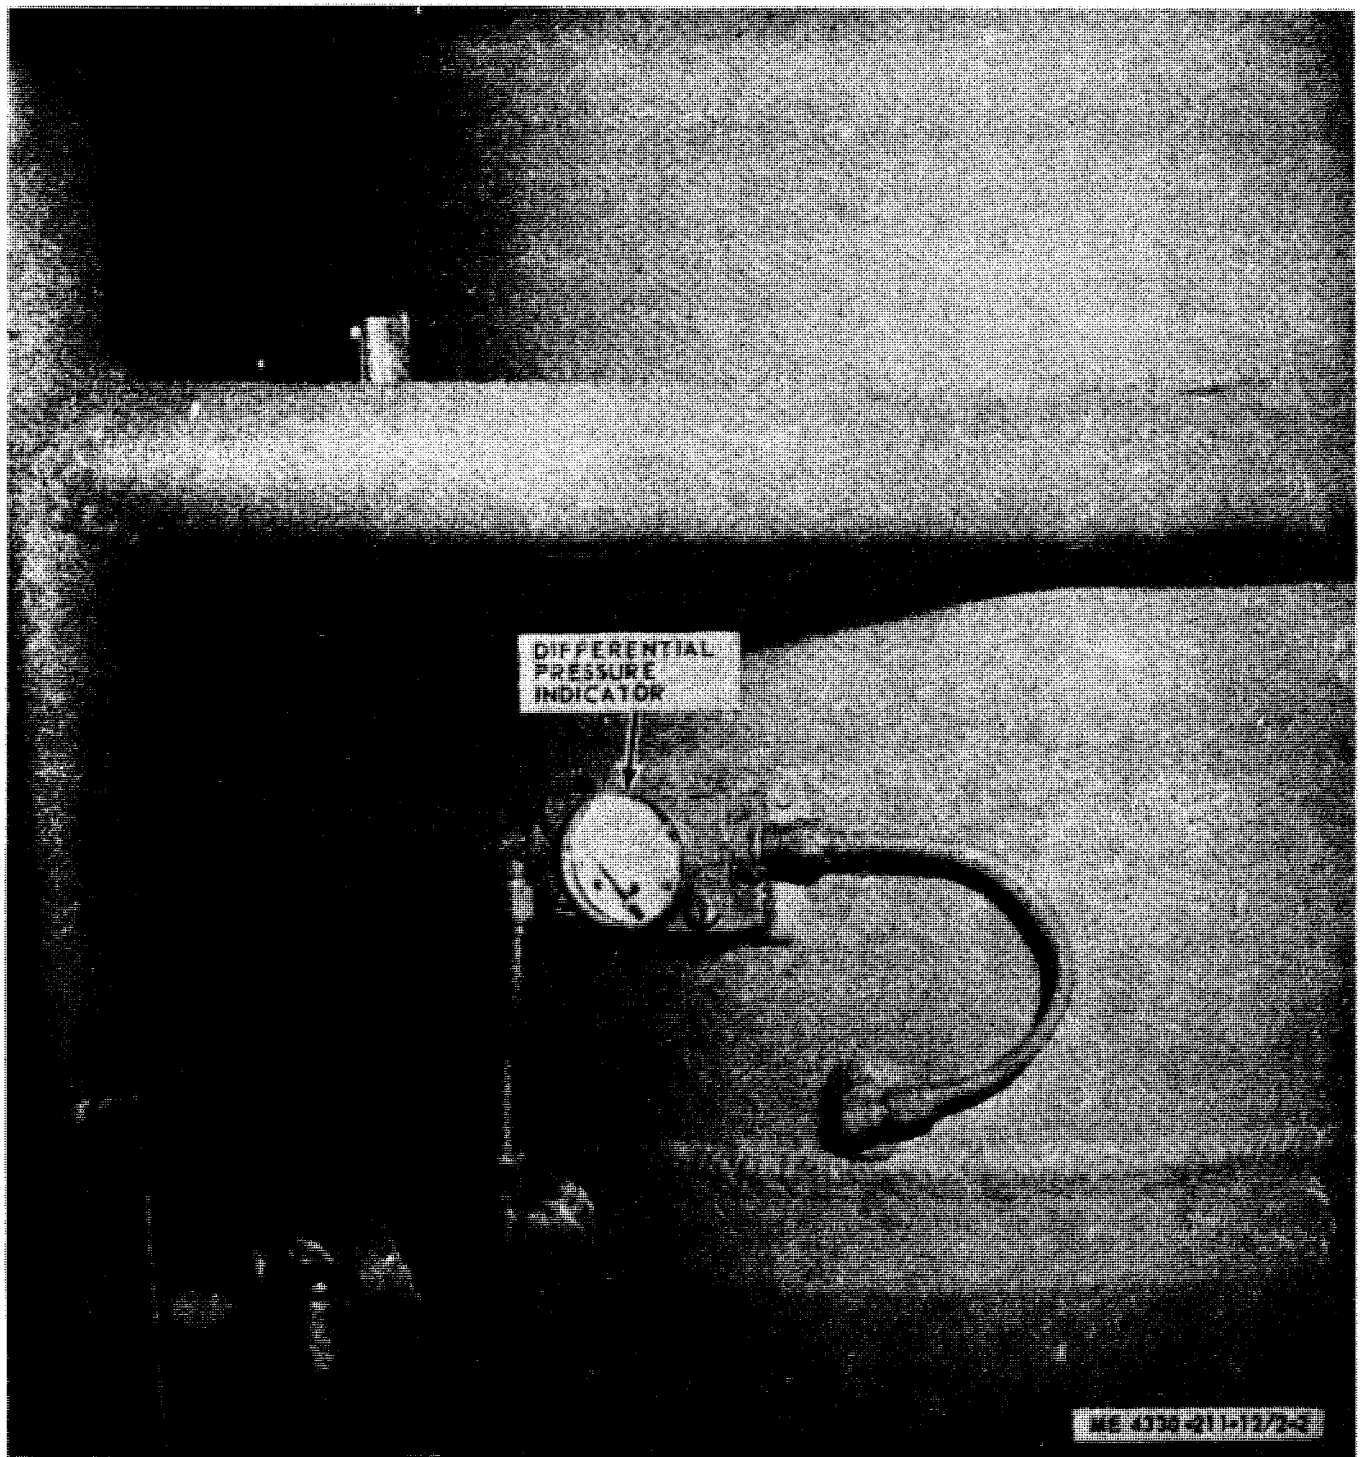

Figure 2-2. Controls and Instruments (Keene Corp. Model 844-18-V-350AL)
Page 2-5. Figure 2-2 is added as follows:
a. If the differential pressure indicator button is raised (fig. 2-1 (2) — General Steel Tank Co. Model 0217) or if differential pressure gage (fig. 2-2 — Keene Corp. Model 844-18-V-350AL) is reading constantly high (20-35 psid), this indicates need for changing filter elements. Remove head (fig. 3-2). Refer to figure 3-1 and remove the elements.